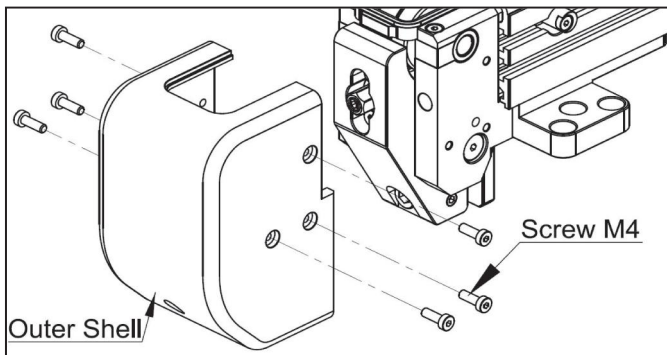

Fig. 9-4
(4) Remove the outer shell by taking off the six M4 screws on both sides, as shown in **Fig. 9-4**.